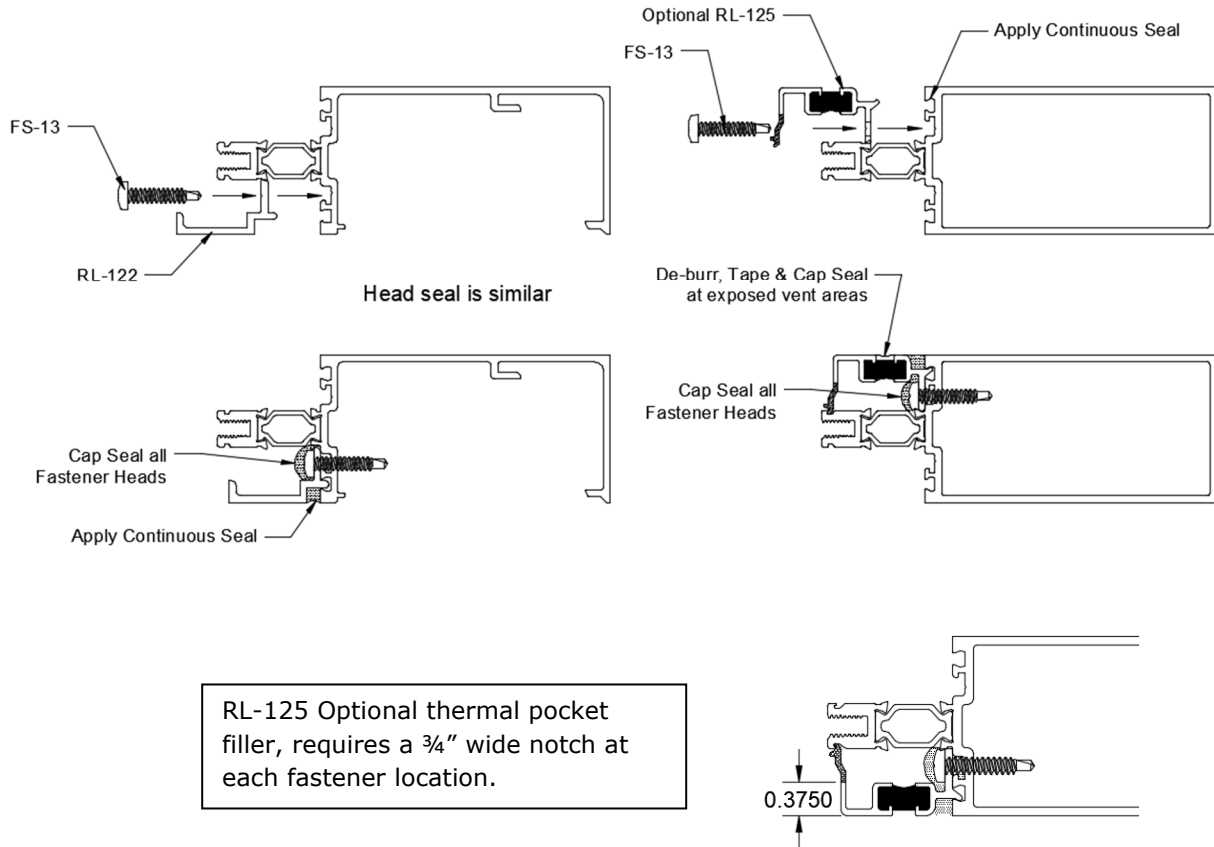

Figure 42: Horizontal Pocket Filler Attachment
- 14.1 Align **RL-122** Pocket Filler along length of Horizontal and attach with **FS-13** Fasteners through pre-drilled holes. See *Figure 42*.
- 14.2 When using **RL-125** Pocket Filler, run a continuous line of sealant the full length of the glazing reglet and Setting Block Chair and align Filler along the length of the Horizontal. Attach Filler with **FS-13** fasteners at 1-1/2" from each end and a maximum spacing of 12" on center. See *Figure 42*.
- 14.3 Run a continuous line of sealant the full length of **RL-122**, as well as cap-sealing over all fastener heads. See *Figure 42*.